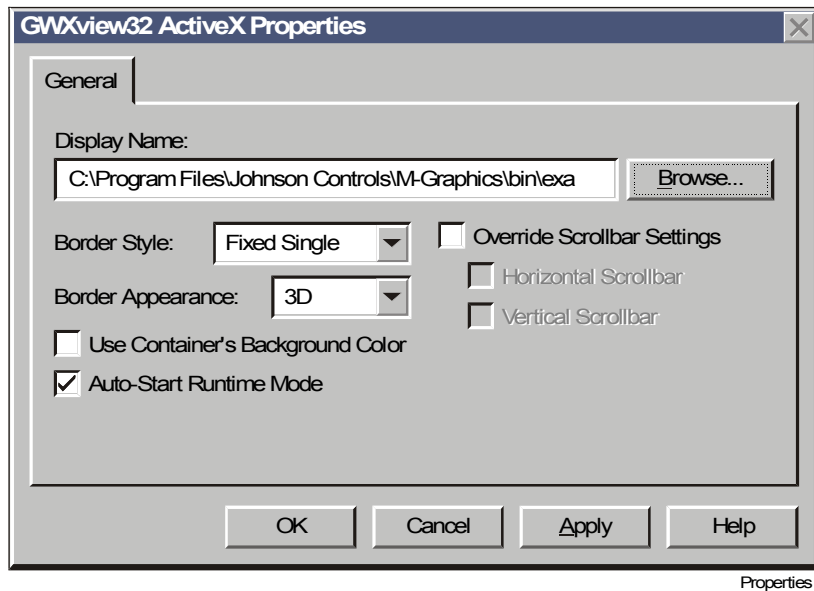

Figure 13-3: M-Graphics Property Page
1. Double-click the M-Graphics ActiveX to display the Property page shown in Figure 13-3.